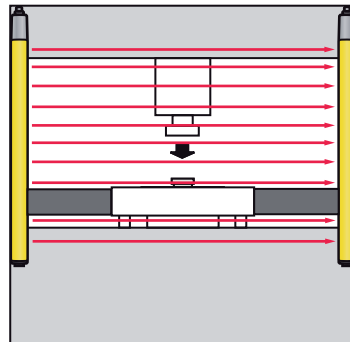

Figure 4.1: Fixed blanking: mechanical locks prevent side access to the protective field
- ↳ If necessary, properly mount mechanical locks which are fixed firmly to the object (see figure 4.1) to prevent the “formation of shadows”, for example from tall objects or crooked installation.